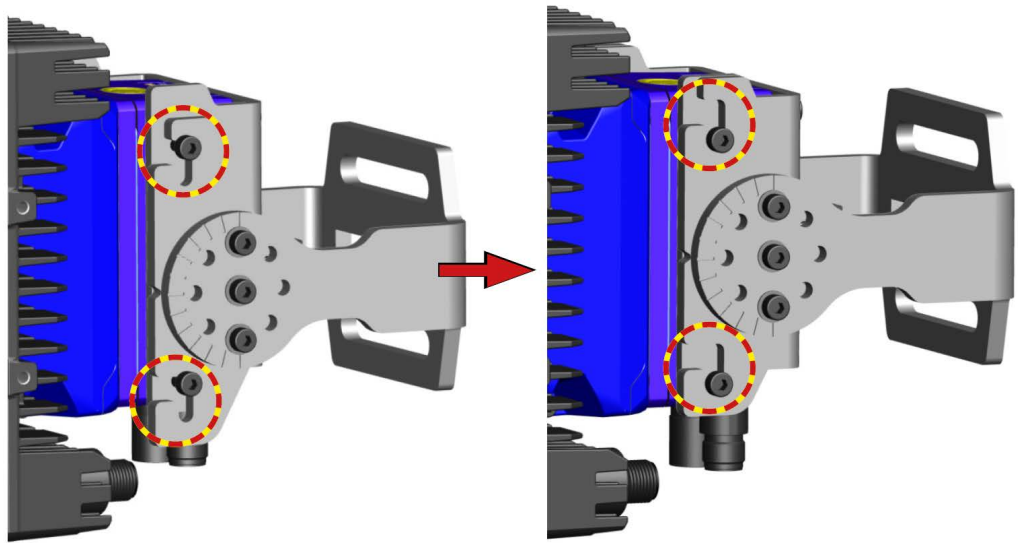

Figure 53 - Mounting the plates together
4. Fix the Frame Plate + Rotating Plate assembly to the Fast Replacing Plate, as shown in Figure 53, and tighten the four screws on both sides of the Fast Replacing Plate.